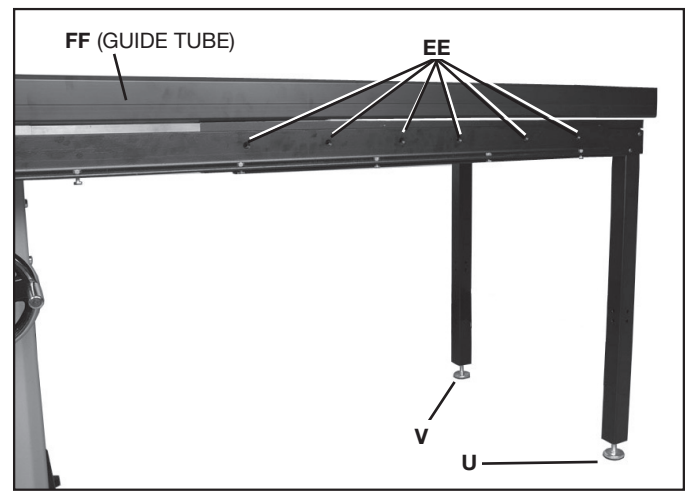

FIG. 13
1. Position the leveling foot (U) Fig. 13 on the front of the saw until the holes (not visible) in the extension table line up with the holes (EE) in the front rail. (**NOTE:** 52" (1.3 m) version shown in Figure 13.)
NOTE: Place guide tube (FF) across saw table and onto extension table as shown in Fig. 13. If there is a gap (as shown) the leveling foot (DD) needs to be adjusted to bring the table up more.
2. Insert a 1/4-20 x 3/4" (19 mm) flat head screw into one hole (EE) Fig. 13 on front rail. Place a 1/4-20 serrated flange nut on the screw from underneath the extension table.
3. Repeat this for the remaining holes (EE) Fig. 13 in the front rail.
NOTE: Instead of leveling foot (U) Fig. 13, you will position leveling foot (V) just prior to installing rear rail fasteners.